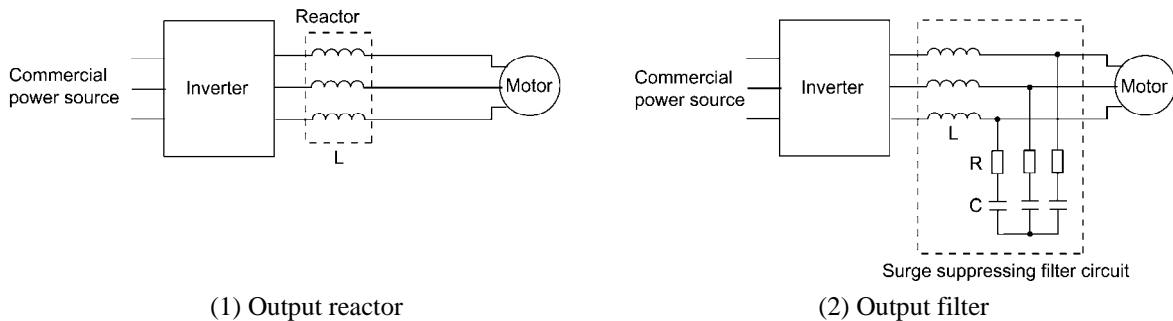

Figure C.3 Method to Suppress Surge Voltage
(1) Output reactor
If wiring length is relatively short the surge voltages can be suppressed by reducing the voltage rise time ( $dv/dt$ ) with the installation of an AC reactor on the output side of the inverter. (Refer to Figure C.3 (1).)
(2) Output filter
Installing a filter on the output side of the inverter allows a peak value of the motor terminal voltage to be reduced. (Refer to Figure C.3 (2).)